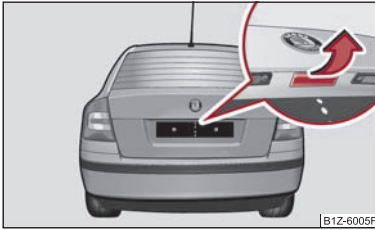

Fig. 27 Handle of boot lid
- Press on the handle ⇒ fig. 27 and at the same time raise the boot lid.